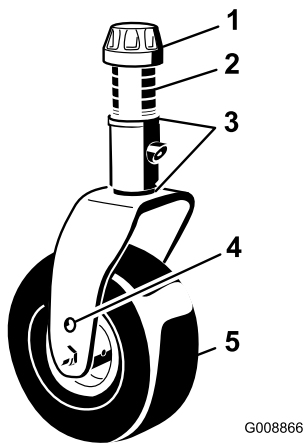

Figure 82
1. Remove the tensioning cap from the spindle shaft and slide the spindle out of the castor arm (Figure 82). Reposition the shims, as required, to raise or lower the castor wheel until the cutting unit has the correct pitch.